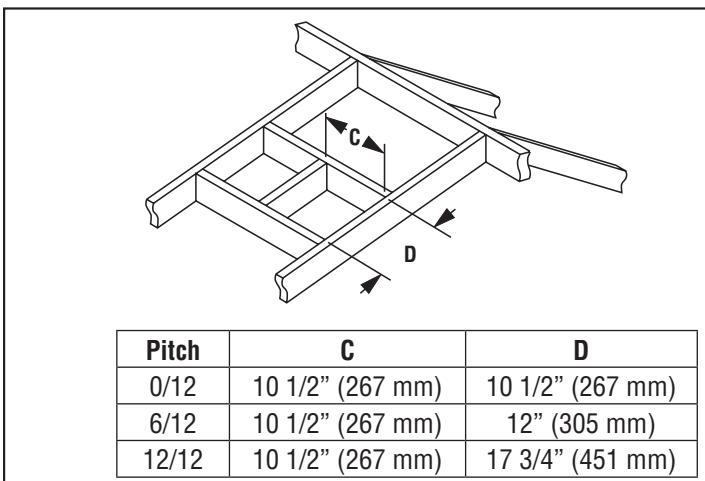

Figure 19 - Roof Framing Dimensions
- Frame the roof opening**—Identify the location for the vent at the roof. Cut and/or frame opening (**Figure 19**).